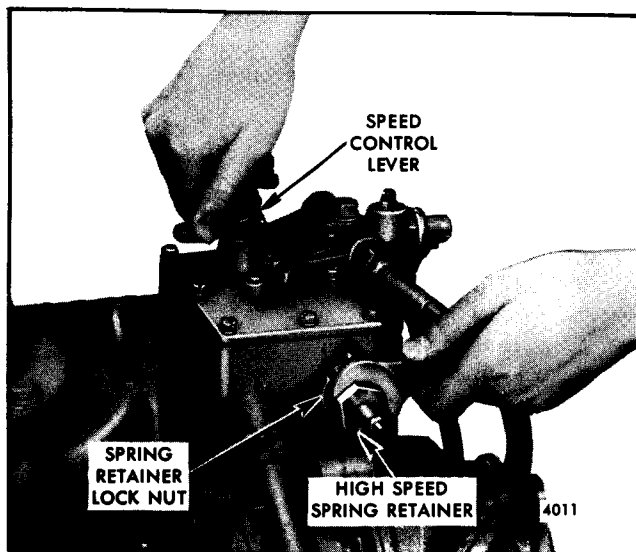

Fig. 7 - Adjusting Maximum No-Load Engine Speed
2. With the engine at operating temperature and no load on the engine, place the speed control lever in the *maximum speed* position. Turn the high-speed spring retainer in (Fig. 7) until the engine is operating at the recommended no-load speed. Use an accurate hand tachometer to determine the engine speed. The maximum no-load speed varies with the full-load operating speed.